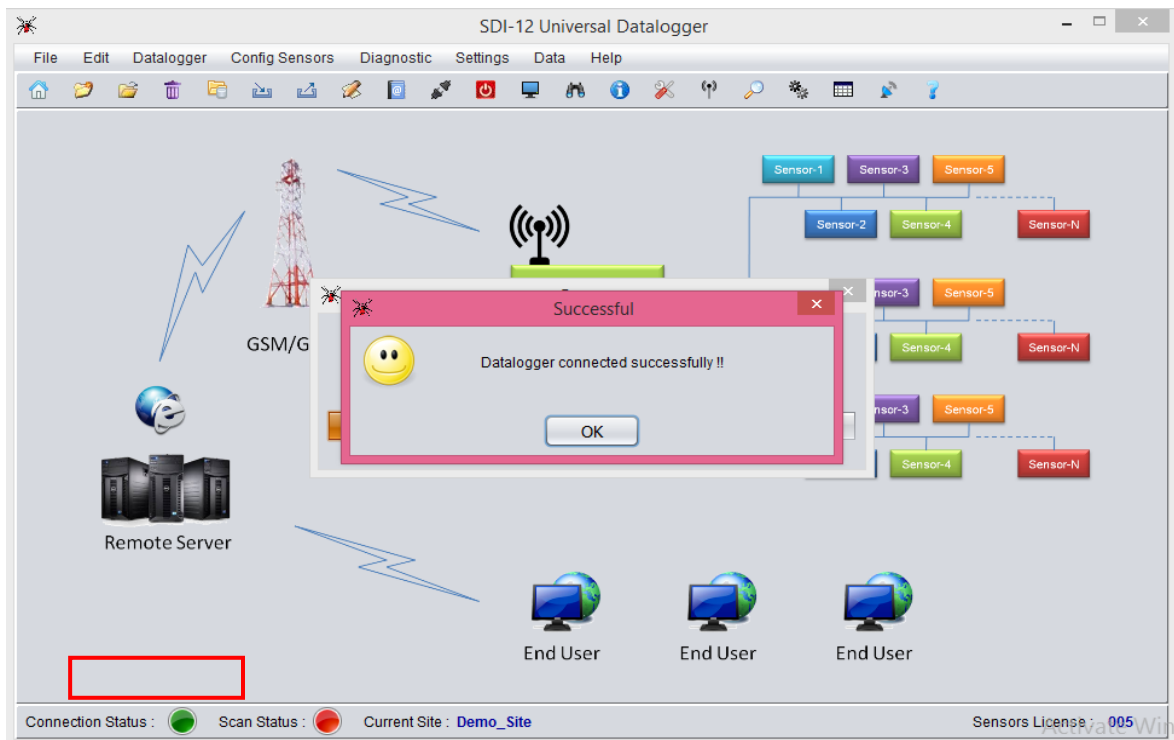

Figure 7-5 Datalogger connection status on EDSL-30UNI Configuration Manger Software
- 5 Confirmation window showing Datalogger connection status will appear. Then click “OK” button. This will change the “Connection Status” from Red to Green (displayed at the bottom left in figure 7-5 below).